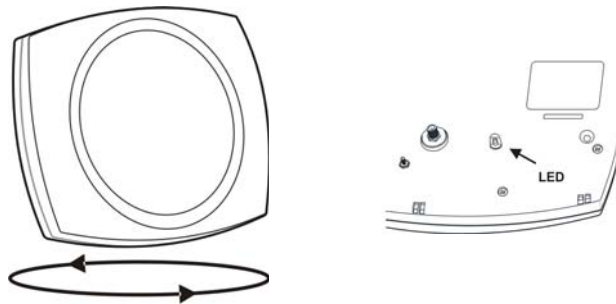

Figure 4.11 DU Alignment Using LED Indicator
1. **ROTATION #1.** At the proposed DU mounting location and height, hold the DU upright pointing away from your body. Rotate it in a full circle - see Figure 4.11. A time of 20 seconds is appropriate to complete the rotation. Ignore the DU LED indication - see Figure 4.11.
2. **ROTATION #2.** Repeat the rotation of the DU but now monitor the LED - see Figure 4.11. Take note of the azimuths that show a GREEN LED - there may be more than one range of azimuths where the LED is GREEN.